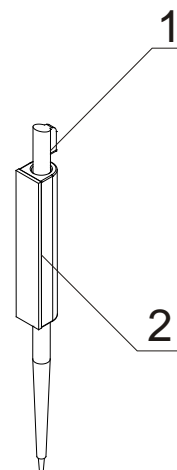

Fig.1
The function of the stylus (pos. 1, fig.1) is to facilitate and provide the safety operation of the touchscreen of fire control panel IFS7002 and repeater IFS7002R.
The self-sticking support pad (pos.2, fig.1) allows it to be stuck in a convenient place.